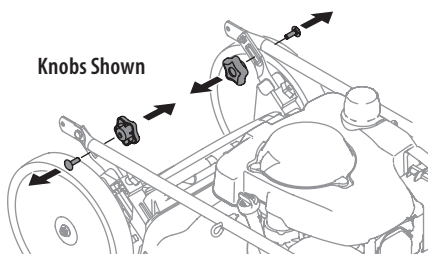

Figure 1
2. Remove knobs or wing nuts and carriage bolts from the handle (Figure 1). Do not loosen or remove adjacent hex head screws.